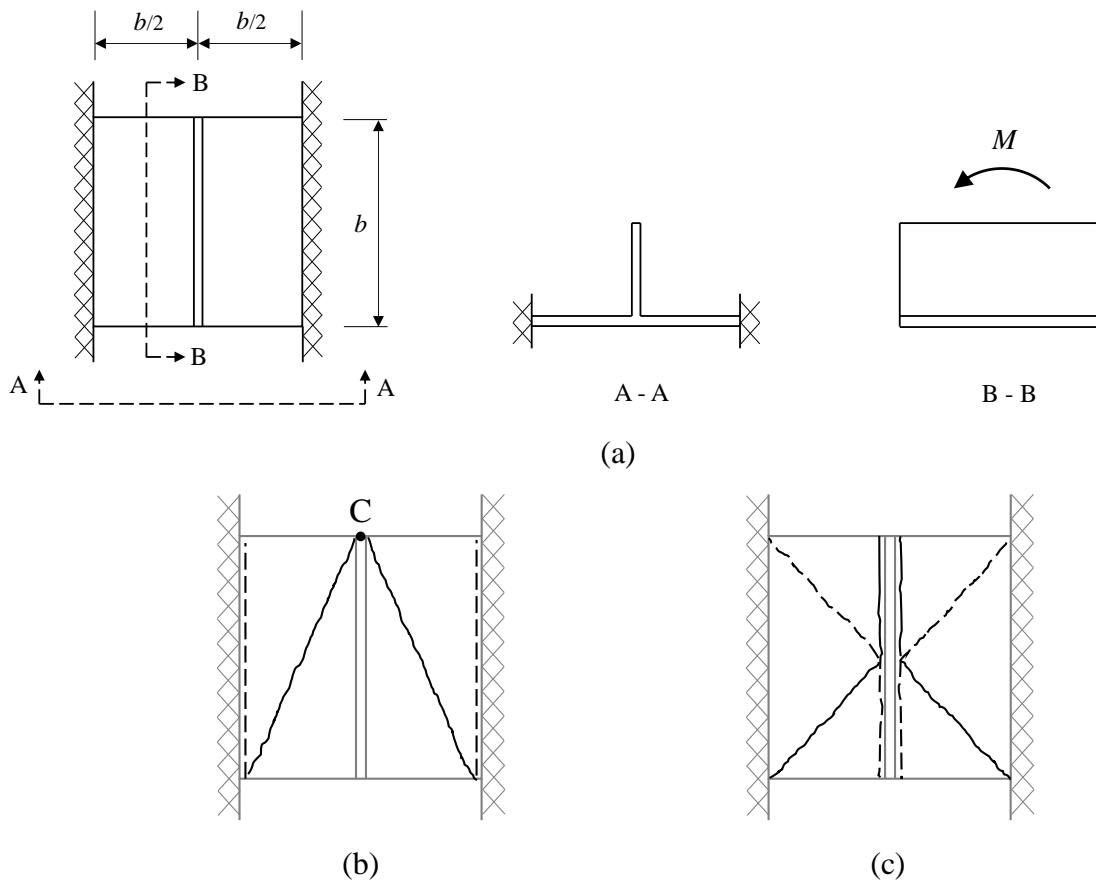

Figure 5
5 A horizontal square plate with side  $b$  has fixed boundary conditions along two edges, with the other two edges free, as shown in Fig. 5(a). A vertical plate is welded to the horizontal plate, and a moment  $M$  is applied to the vertical plate. The horizontal plate has a fully plastic moment capacity per unit length given by  $m$ . The thickness of the vertical plate is negligible compared to the length  $b$ . The self-weight of the plates can also be neglected.
- (a) Considering the yield line mechanism shown in Fig. 5(b), prove that when point C deflects by a small amount  $\delta$ , the work done by the moment  $M$  is  $M\delta/b$ . [3]
- (b) Estimate the value of the moment  $M$  causing collapse, using the yield line mechanism shown in Fig. 5(b). [11]
- (c) Investigate whether the yield line mechanism in Fig. 5(c) is critical over that in Fig. 5(b). [11]